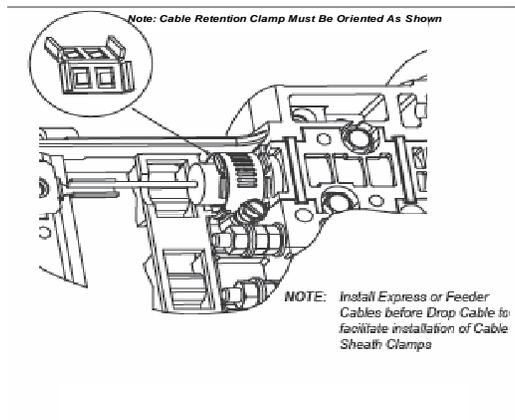

Figure 4
6.07 Remove the Central Strength Member (CSM) clamps aligned with the cable ports to be used using the provided Allen wrench and set the clamp plates and screws aside for later installation. See **Photo 3 – CSM Clamp Removal** and **Figure 4**.
11.01 Attach the cable to the closure's center section by installing a hose clamp over and around the cable, sheath retention clamp and cable retention grommet. Sheath retention clamp should be oriented as shown. Do not fully tighten the cable clamp at this time. See **Figure 4 – Cable Retention Clamp Spur Orientation.**